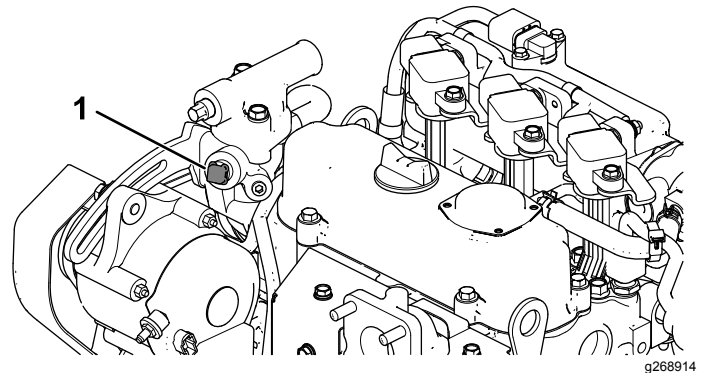

Figure 12
- A. Remove the plug in the thermostat housing (Figure 12).